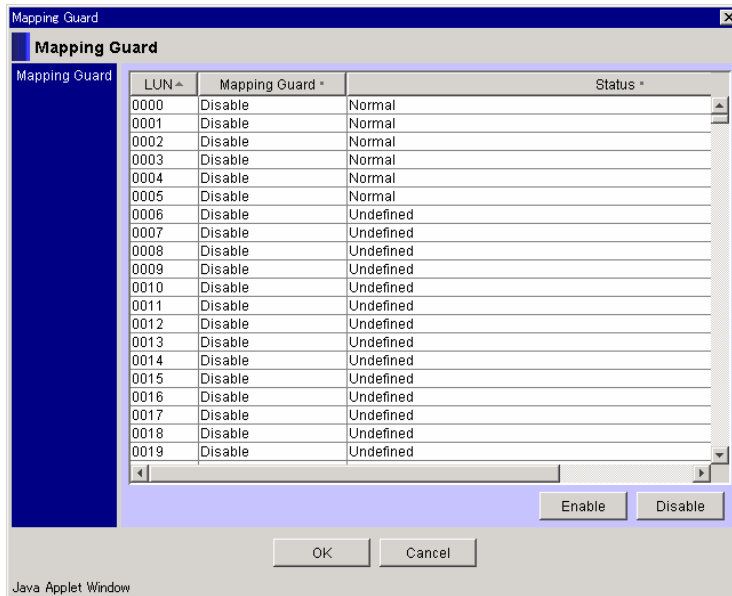

Figure 7.5 Mapping Guard Dialog Box
3. In the Mapping Guard window. See Figure 7.5.